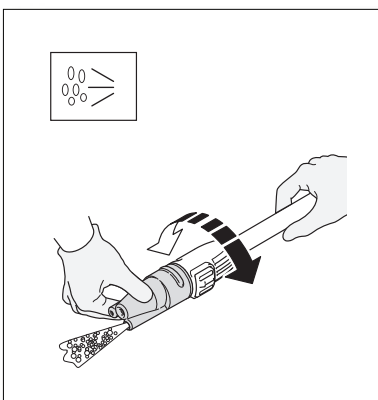

Fig. 22
- Soap Setting: **(Fig. 22)** Use this setting when using detergent to help clean the hard to clean surfaces and additional chemical is needed to break up the dirt.